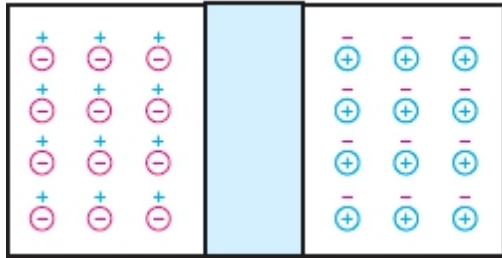

Figure-8 Depletion layer
- How wide does the depletion layer get in Figure-8?